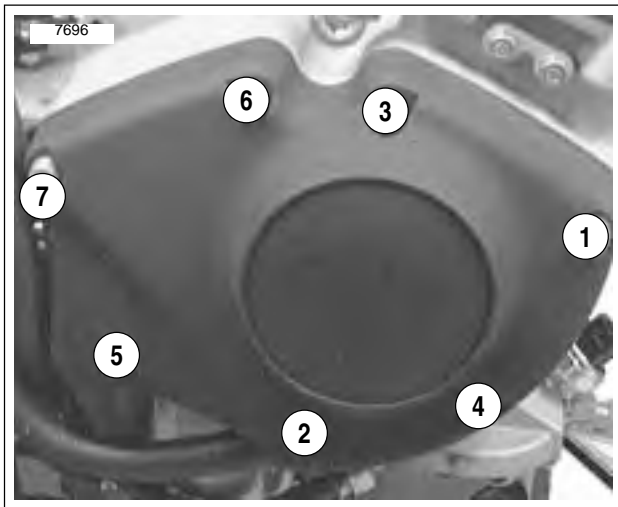

Figure 3-117. Gearcase Cover Mounting Screw Torque Sequence
5. See Figure 3-117. Install gearcase cover over all gears and onto right crankcase half. Secure cover to crankcase half with 7 socket head screws. Tighten screws evenly to 80-110 **in-lbs** (9-12 Nm). Use torque sequence as shown.